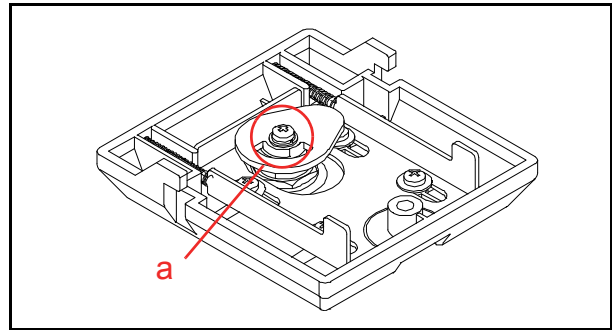

Figure 13 Frame Lock Installation 2
3. Retain the Cylinder and the Door Lock Tang by the single (1) Screw provided with the Cylinder (Figure 13 a).